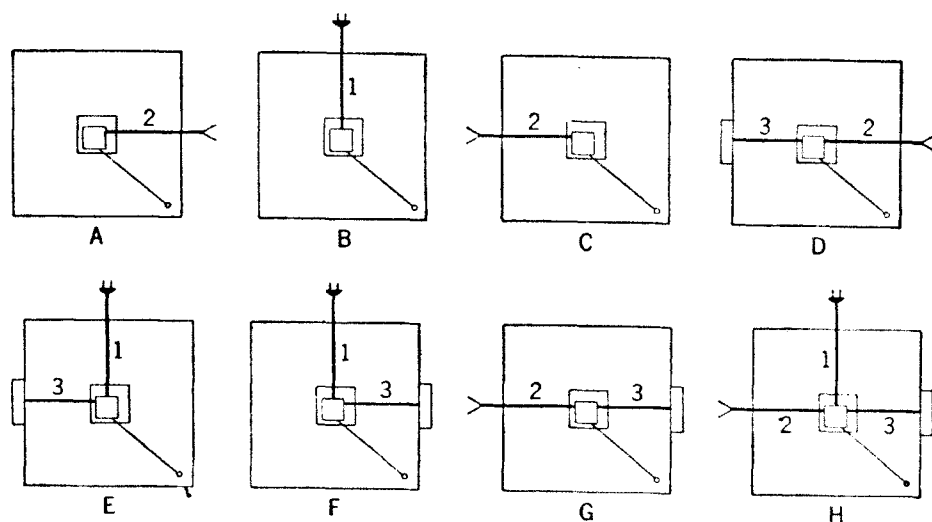

Fig. 1—Diagrams of Cable Furnished on Booths
1.04 Booths are equipped with a lead-in cable and/or an interconnecting cable on the right or left side as specified on the order. Directory lights on the right or left side are also provided when specified. The 10 and 11-type booths will come equipped with the KS-14125 (List) blower when specified on the order. Refer to Fig. 1 and specify which arrangement is desired. (Directory lights are frequently added in the field so as to avoid damage in transportation.)
Explanation of Fig. 1